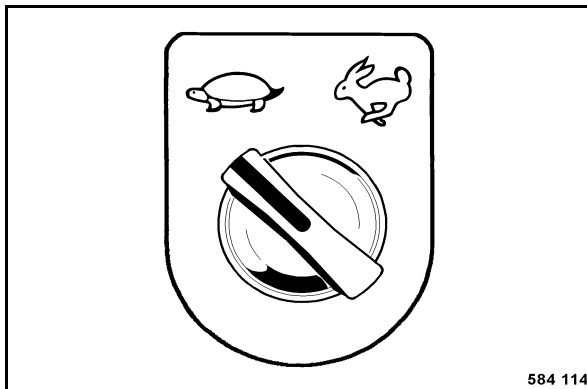

Fig. 64
- Turn the rotary switch for travel speed range selection (Fig. 64) to position "turtle".